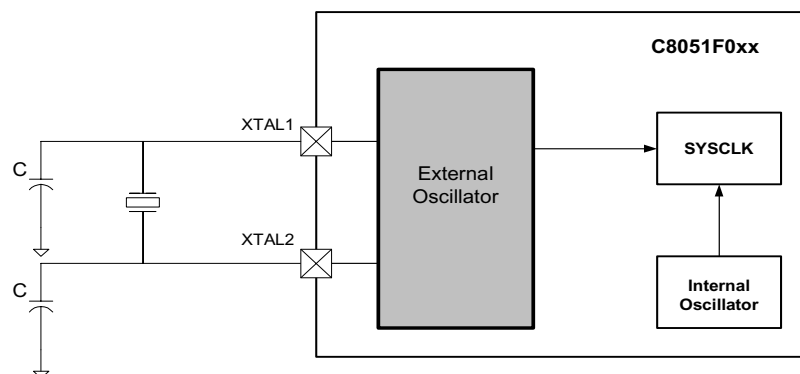

Figure 1. Internal Oscillator and an External Crystal Source Configuration
Two examples of alternating between SYSCLK sources are (1) an internal oscillator/external crystal configuration, and (2) an external crystal/RC oscillator configuration. If the device is used for occasional high speed data conversion, and a real-time clock is used for time-stamping the data, a combination internal oscillator and external crystal would be ideal. During sampling operations, the high speed internal oscillator would be used. When sampling is complete, the device could then use an external 32 kHz crystal to maintain the real-time clock. Once high speed operations are required again, the device switches to the internal oscillator as necessary (see Figure 1 below). An example of this procedure is illus-